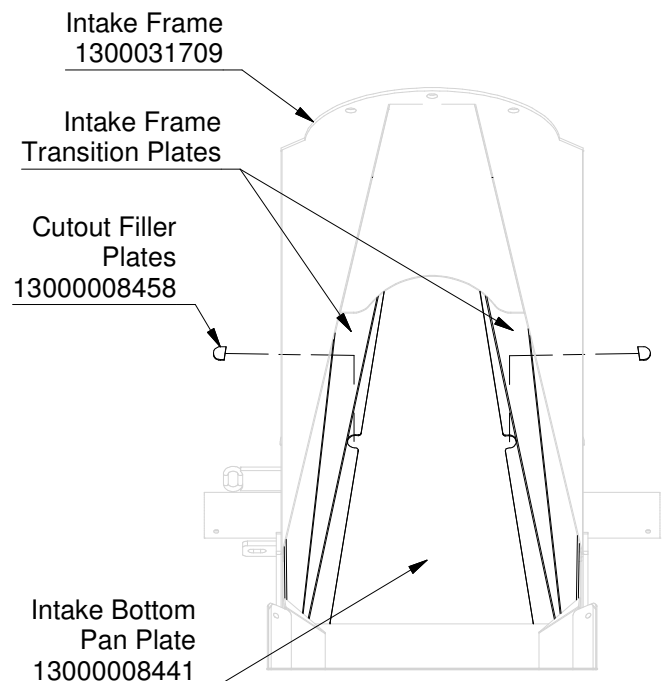

FIGURE 4
4. Place the Cutout Filler Plates into the cutout slots on the Intake Frame Transition Plates. See Figure 4.